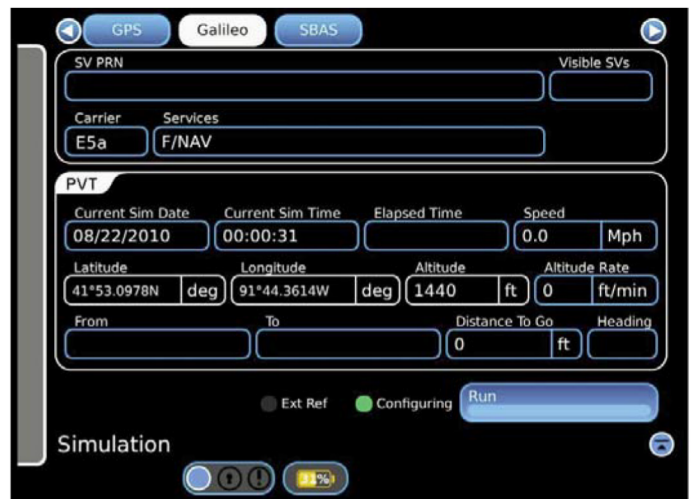

Figure 8
- On both GPSG-1000 units Simulation screen press the Run switch. You should note that both GPSG-1000 units configure the simulation, but, the time and date data on the Simulation screen should not update. See Figure 8.